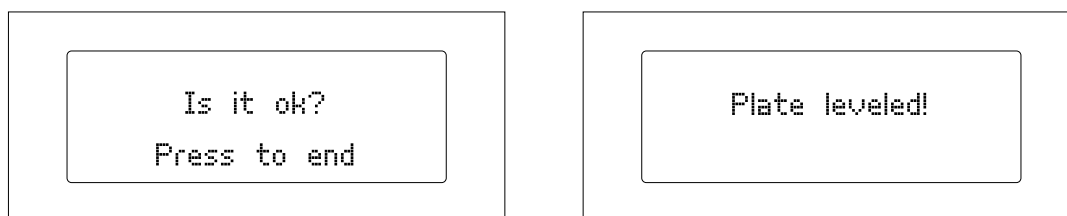

Figure 3.15 Completing the levelling process
- 4 Finally, the extruder will move across to the centre of the base and you will be asked to verify the distance between the nozzle and the print base once again. Once you have done so, press the control wheel to exit the levelling program (fig. 3.15). It is recommended that you repeat the levelling process as many times as necessary in order to make sure the base is correctly levelled.